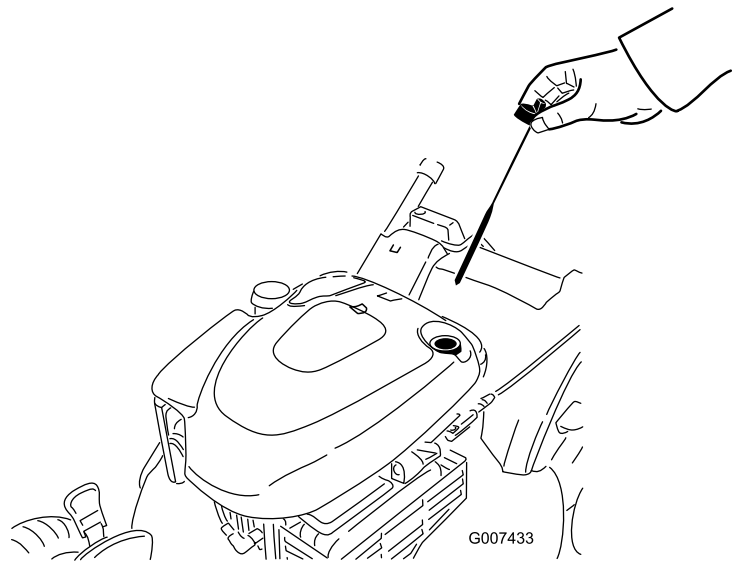

Figure 45
2. Remove the dipstick (Figure 45).